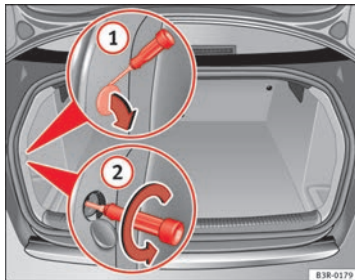
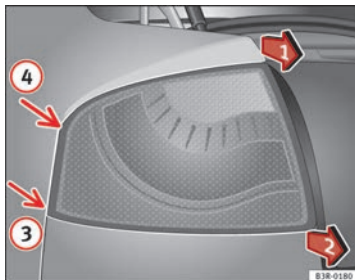

Fig. 209 Luggage compartment: Location of the bolt securing the tail light unit
Fig. 210 Removing tail light from side panel
- Prise open the cover at the slot with the flat blade of a screwdriver ⇒ Fig. 209 ①.
- Use a screwdriver to loosen the screw ② (arrow) located behind the cover.
- Gradually ease the tail light out of the housing (⇒ Fig. 210 positions ③ and ④) by pulling alternately in positions ① and ②.